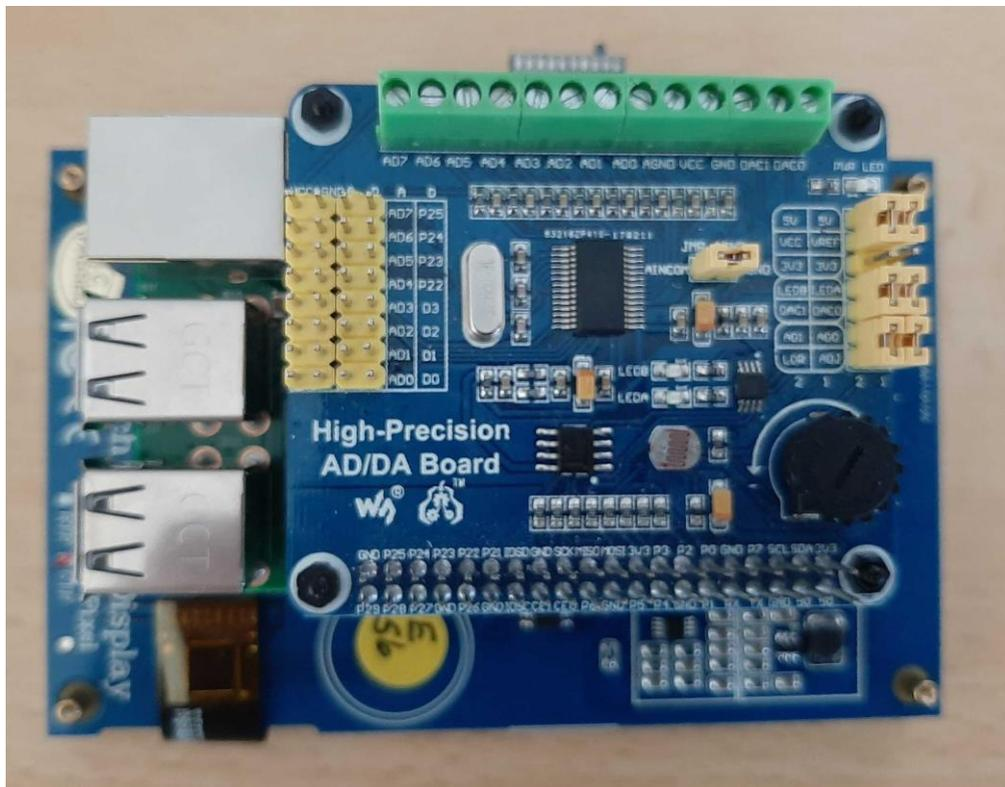

Fig. 7: Finally the Waveshare AD/DA board is screwed on top of the Raspberry after connecting it to the GPIO port (see also Fig. 8).
- 2) Then do the same with the Waveshare AD/DA board, connect its lengthy connector carefully to the GPIO-port of the Raspberry, and use some 15 mm high spacer screws. Should look like Fig. 7.